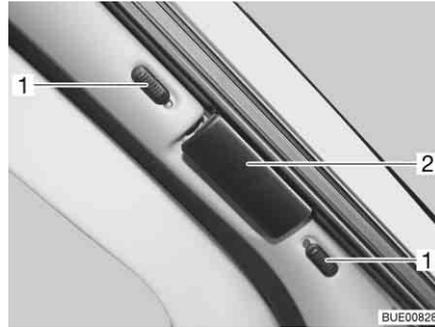
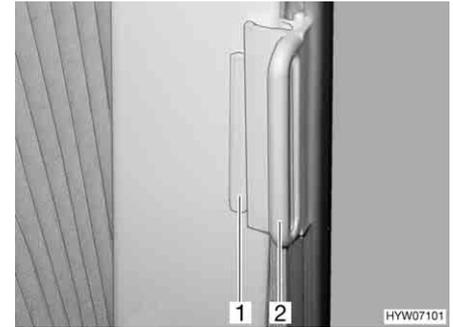

Fig. 63 Roman shade for the windscreen
Fig. 64 Roman shades for driver's window and front passenger's window
- On the Roman shade for the windscreen, push the locking knobs (Fig. 63,1) upwards or downwards. If the red dot is visible, the lock is open.
- Grasp the handle (Fig. 63,2 and Fig. 64,2) of the Roman shades and draw carefully until the magnetic catch keeps the Roman shades closed.
- On the Roman shades for the driver's and passenger's window, push the handle (Fig. 64,2) onto the cap (Fig. 64,1). The Roman shade is secured.